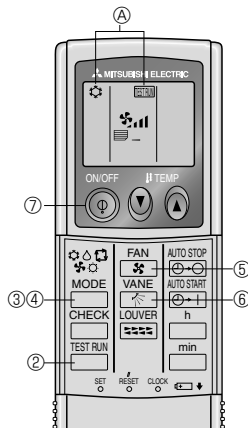

Fig. 7-2
7.2.2. Using wireless remote controller (Fig. 7-2)
- ① Turn on the power to the unit at least 12 hours before the test run.
- ② Press the ^{TEST RUN} button twice continuously.